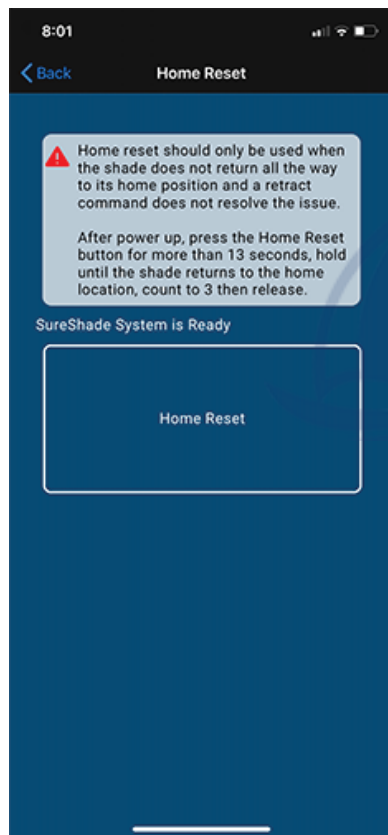

Fig.43
11. Read and follow the Home Reset instructions (Fig. 43).